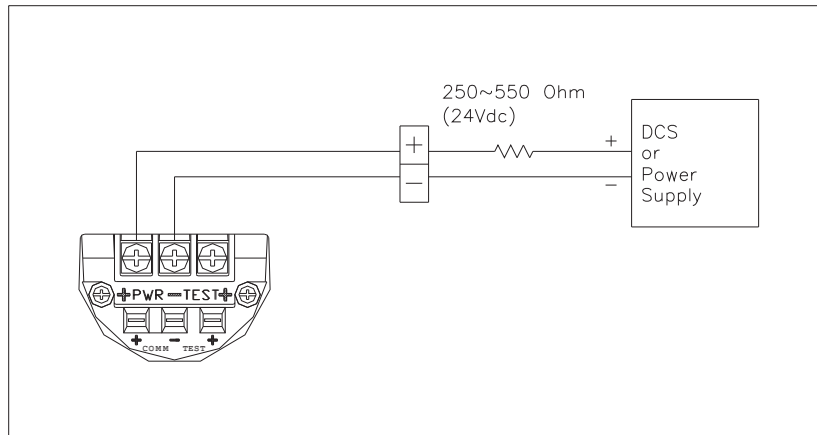

Figure 6-2 Connection with Terminal Board of Transmitter
- (1) Open the housing cover indicated "FIELD TERMINAL". NOTE: For hazardous environments do not open the covers when transmitter is powered and circuits are live.
- (2) Connect the power supply in the terminal indicated "+PWR" (left terminal) and "-" power supply in the central terminal. Do NOT connect "+" power supply in "+" terminal of the point indicated "TEST". It will damage the test diode used for connecting TEST terminal.
- (3) Seal and close unused conduit connections to protect transmitters from severe humidity and explosive gases from entering into the terminal box compartment.
- (4) Avoid running signal wiring near AC or high power lines. In case of ground signal, ground the signal loop's on one side making sure other side is not grounded.
- (5) Ensure loose contacts are eliminated and proper wiring connections are maintained.
- (6) After wiring replace transmitter cover. In case of explosion proof areas, you must satisfy all requirements to maintain certification requirements.
- (7) Do not supply high voltage AC power into transmitter leads as it can cause permanent damage to transmitter.
- (8) Use surge protectors to protect transmitter from external power surges.
- (9) Ensure you have a 250~600 W Loop Resistor in current loop (between power supply and transmitter) for proper HART® Communication. Follow Figure 6-2 below for wiring instructions.